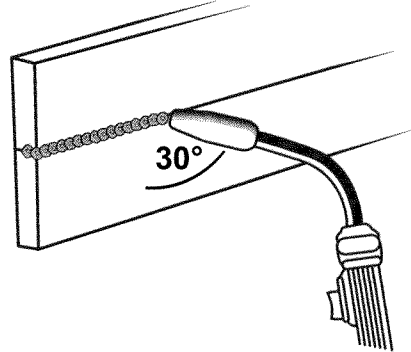

Figure 15. Horizontal Position
2. The **HORIZONTAL POSITION** (Figure 15) is next in difficulty level. It is performed very much the same as the flat weld except that angle B (see **HOLDING THE TORCH** - p.20) is such that the wire, and therefore the arc